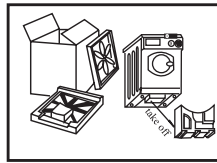

Fig.1
- As shown in Fig.1, remove all the packing materials ( including the foam base ). It is normal that there are some water drops on the plastic bag, the cushion and the porthole. It is because of the water testing before leaving the factory.